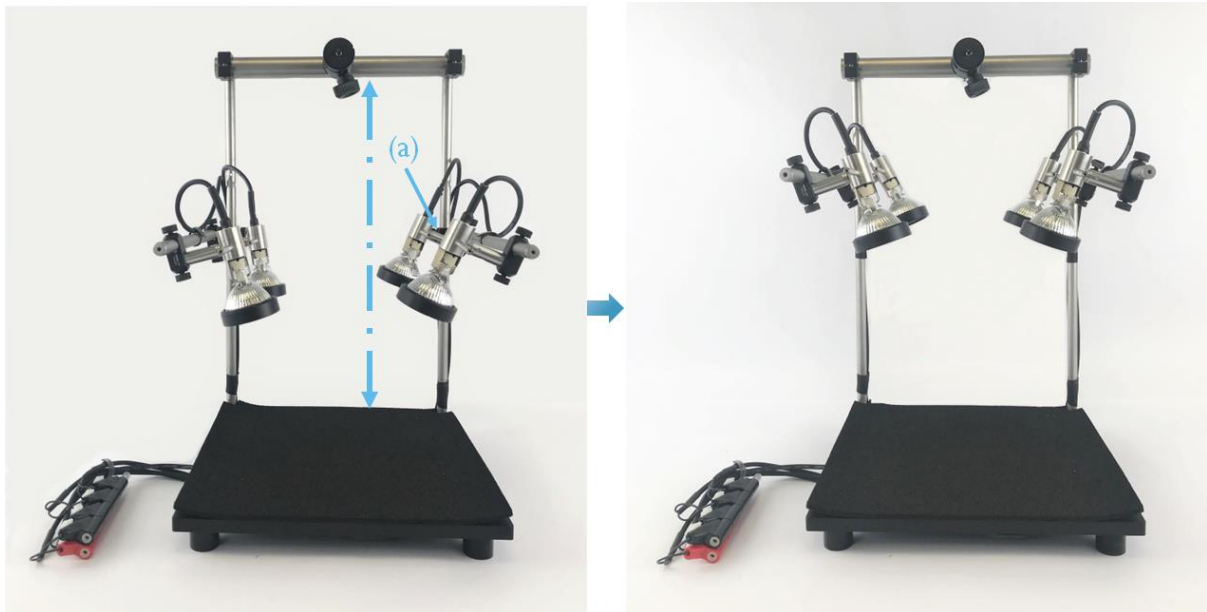

Figure 16. Adjust height of lamps depending on application needs
Step 4.5 Adjust the height of the lamp posts (Figure 16)
- a. Depending on the application, the height of the lamps can be adjusted by moving the lamp holding posts up and down along the vertical posts (as indicated by the double-sided arrow in Figure 16).